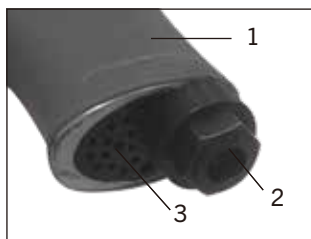

Fig. 4
The tool's air inlet (2) located at the bottom of the handle is used for connecting an air supply with a standard 1/4" NPT American thread. (Fig. 4)
The exhaust (3) is located at the base of the handle and allows the exhaust to be directed away from the operator and working area. (Fig. 4)